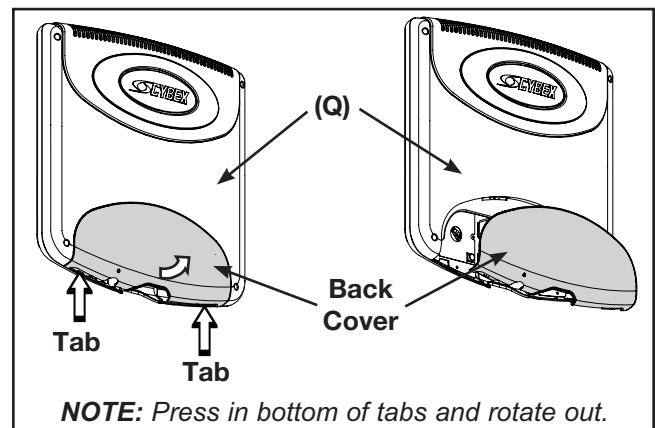

Figure 19
- A. Locate monitor (Q), four mounting screws (T), four lock washers (U) and four mounting washers (V).
- B. Remove the back cover from monitor (Q) by pressing the bottom tabs of the cover in and rotating out. See Figure 19.